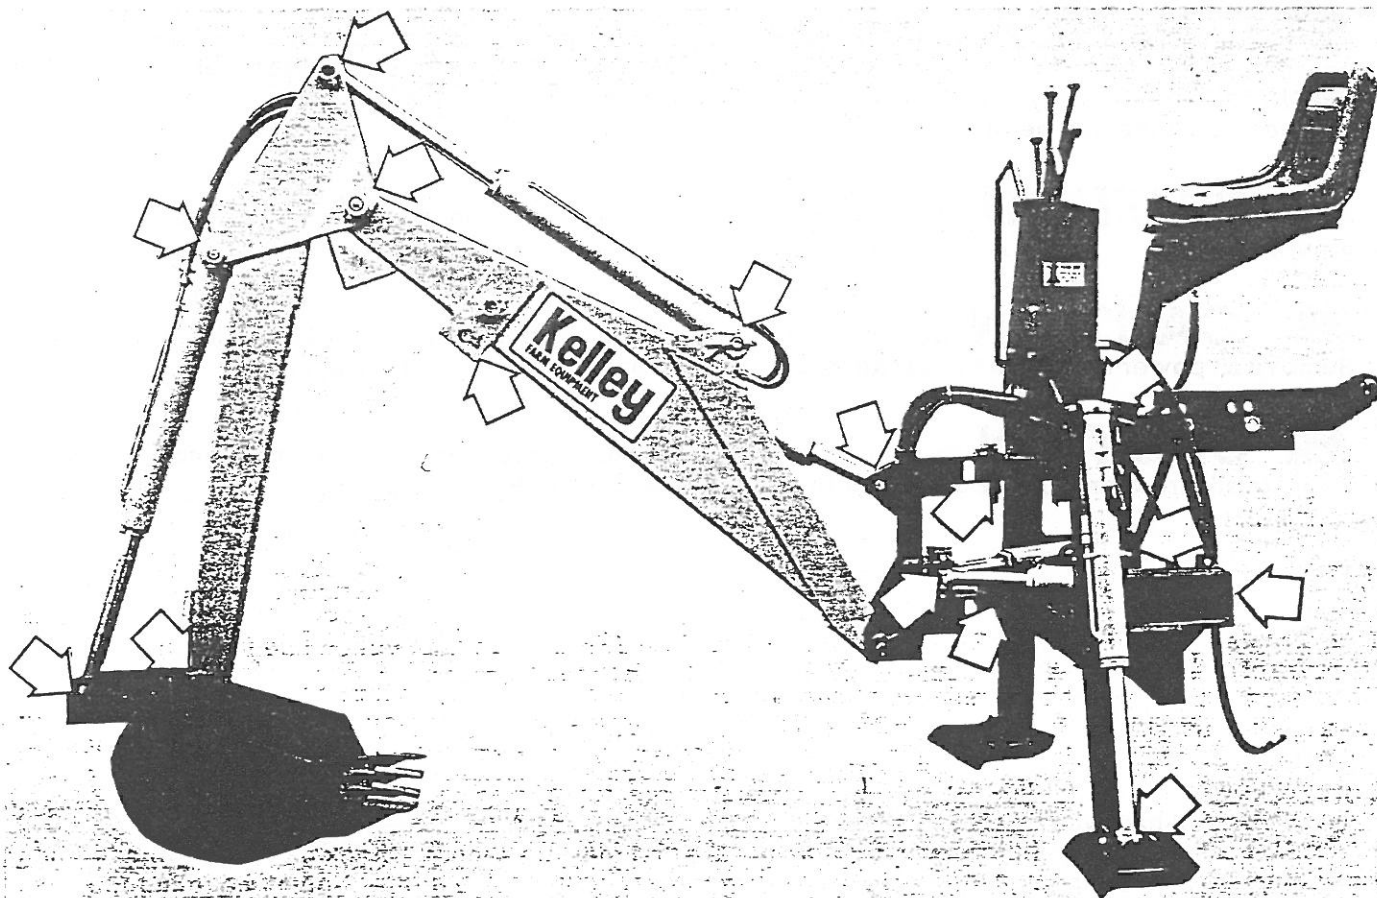

Figure 20 — LUBRICATION POINTS
7. Lubricate all zerks as indicated by the arrows on the drawing Figure 20 — LUBRICATION POINTS.